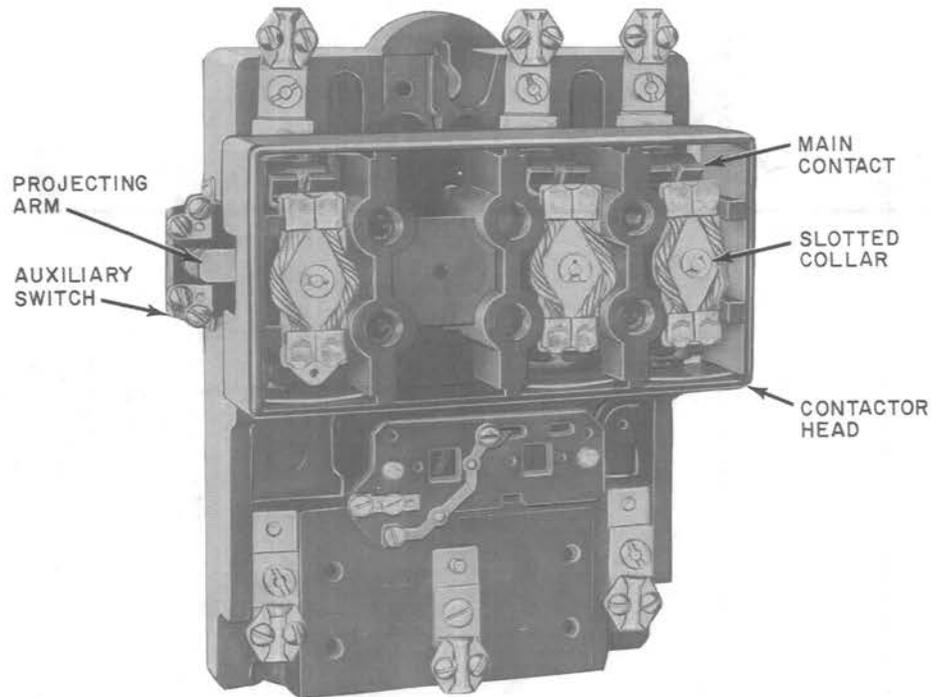

Fig. 4—Ward Leonard K-40818 Contactor
(6) Access to the main contacts in the type of contactors shown in Fig. 4 can be had by removing one screw from each side of the contactor, thus releasing the head. One screw is located close to the auxiliary switch and the other in a corresponding position on the other side of the contactor.
(7) The movable contacts can be released for replacement by removing the slotted collars. The stationary contacts can be removed with a screwdriver.
(8) The contacts in totally enclosed auxiliary switches are not accessible. If they fail to make reliable contact, or if oil or grease is observed in the mechanism, remove as much of the oil or grease as possible using trichloroethane on a cloth wrapped around the flat end of an R-1102 fiber spudger. If, after operating the switch manually, the contacts still fail to make reliable contact, replace the switch.